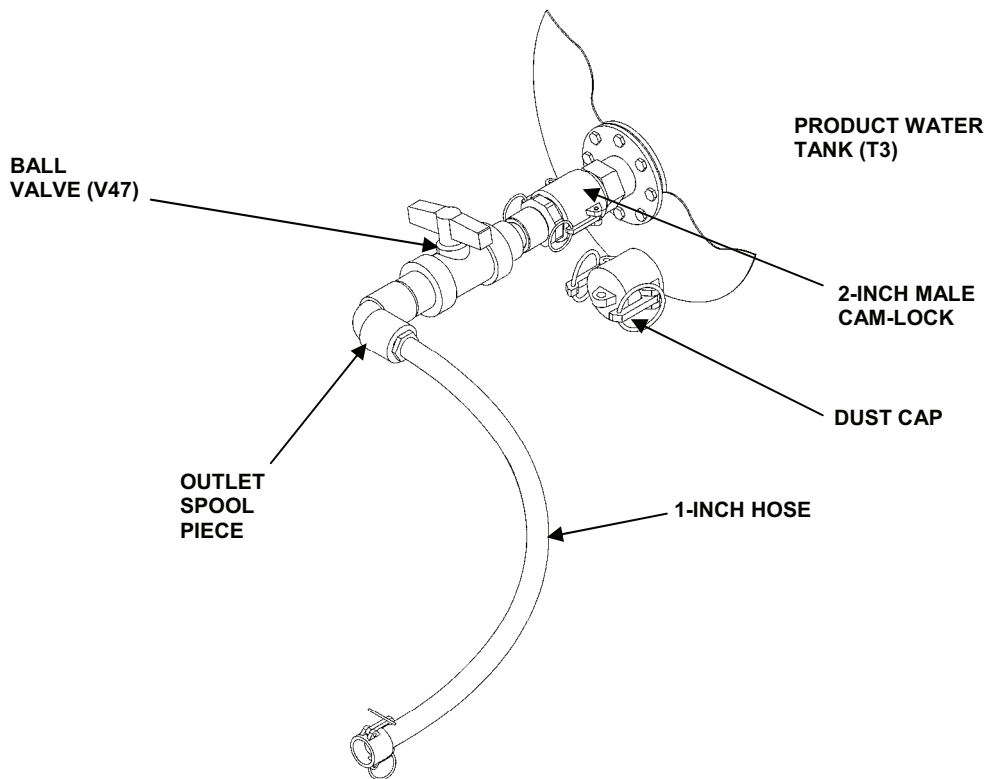

Figure 16. Product Tank Outlet Connection.
36. Connect the product water outlet spool piece to the tank's male connection (BB). Keep the ball valve (V47) on the spool piece closed until the tank is full and ready for distribution. See Figure 16.